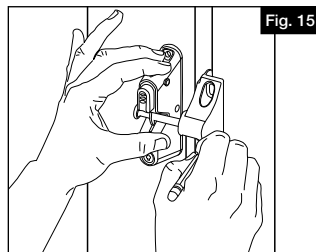

Fig. 15
- 12.** Align the striker along the edge of the gate upright, in the closed position with the latch. Mark the two holes on the front of the striker (Fig. 15). Mark the third hole on the side of the striker, and pre-drill all three holes of the striker using a 3/32" drill bit. Secure striker to gate using three 1" screws.